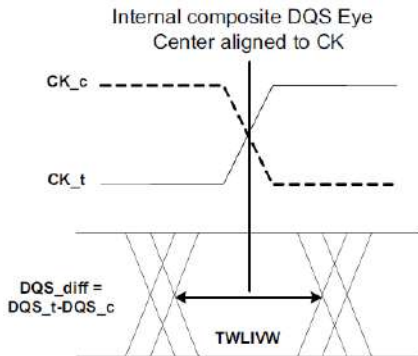

Figure 25. DQS_t/DQS_c to CK_t/CK_c timings at the DRAM pins referenced from the internal latch
- 28) t_{WLIVW} is defined in a similar manner to t_{LIVW_Total} , except that here it is a DQS input valid window with respect to CK. This would need to account for all VT (voltage and temperature) drift terms between CK and DQS within the DRAM that affect the write-leveling input valid window. The DQS input mask for timing with respect to CK is shown in Figure 25. The "total" mask (t_{WLIVW}) defines the time the input signal must not encroach in order for the DQS input to be successfully captured by CK with a BER of lower than t_{bd} . The mask is a receiver property and it is not the valid data-eye.